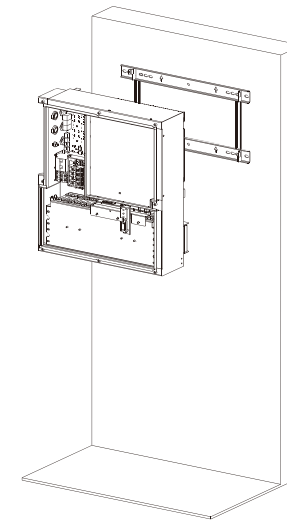

Figure 2.11 Install SMILE-B3
**Step 6** Install SMILE-B3 on the wall bracket, as shown in Figure 2.11.